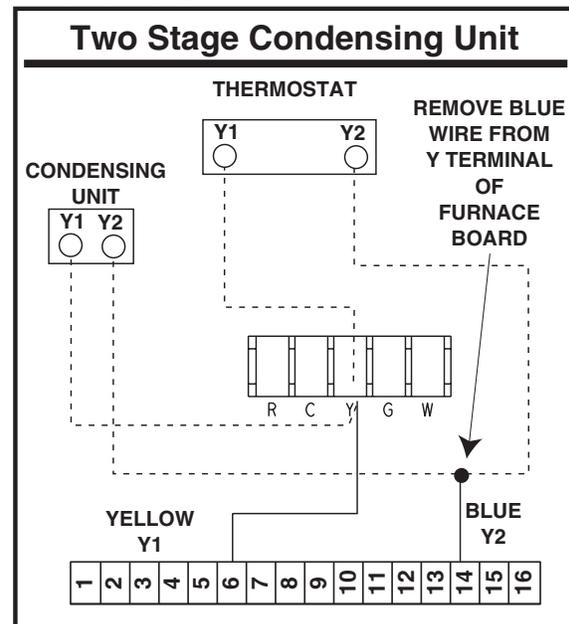

Figure 27. Two Stage Condensing Unit
6. *Two Stage Cooling* – The furnace is supplied with the yellow “Y1” and blue “Y2” connections attached to the control board. Connect a field supplied wire from the yellow “Y1” to the thermostat and the condensing unit, and another wire connected from “Y2” on the thermostat to “Y2” on the condenser. (See Figure 27.)